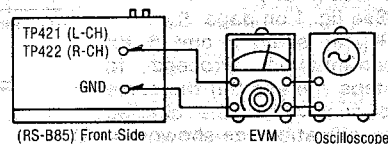

Fig. 11
1. Test equipment connection is shown in fig. 11.